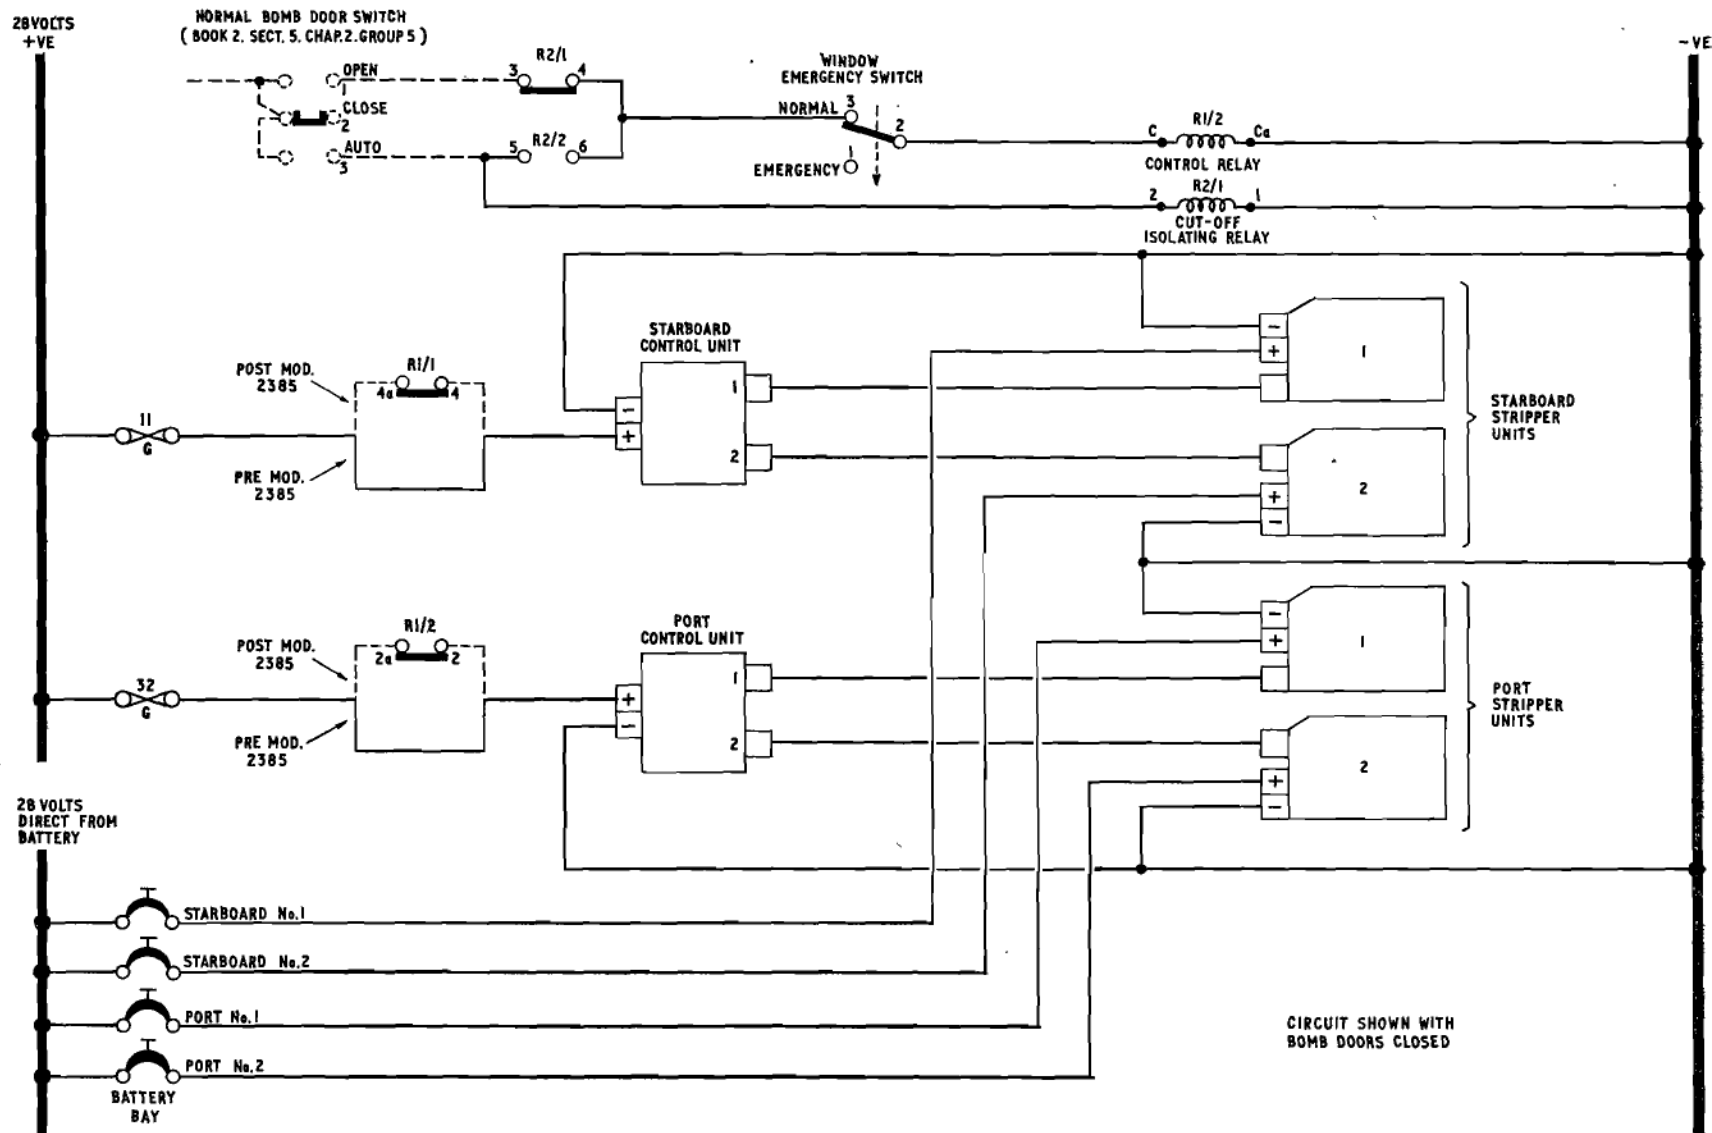

Fig. 1. Window control
9. Window dispensation will therefore be interrupted when the bomb doors control switch is selected either AUTO or OPEN; however, in an emergency, the window emergency switch can be placed to the EMERG. position, this will cut off the supply to the coil of the window control relay so that window dispensation can continue despite the position of the bomb doors. The purpose of the window cut-off isolating relay is to prevent 'feed-back' between the open and auto lines of the bomb doors circuit. Figures 1 and 3 of this Group show the wiring post mod. 2385.▶